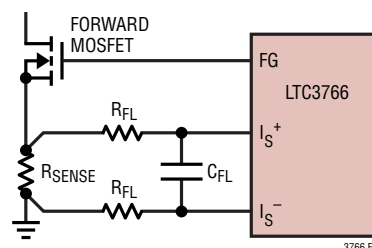

Figure 11. Using a Current Sense Resistor
When using a current sense resistor, the  $I_S^+$  and  $I_S^-$  pins operate differentially and the maximum peak current threshold is approximately 75mV. Normally, the current sense resistor is placed in the source of the forward MOSFET, as shown in Figure 11. Depending on PCB layout and the shielding of the traces going to the  $I_S^+$  and  $I_S^-$  pins, it is sometimes necessary to add a small amount of filtering as shown in Figure 11. Typically, values of  $R_{FL} = 100\Omega$  and  $C_{FL} = 200\text{pF}$  to  $1\text{nF}$  will provide adequate filtering of noise pickup without substantially affecting the current loop response.
1. The accuracy of the current sense resistor and/or current sense transformer. For resistor sensing, the accuracy of the current sense resistor is normally 1%. For sense resistors less than 2mΩ, however, the parasitic inductance can cause a significant error in the sensed current. This error can be eliminated by adding an RC filter as shown in Figure 11.